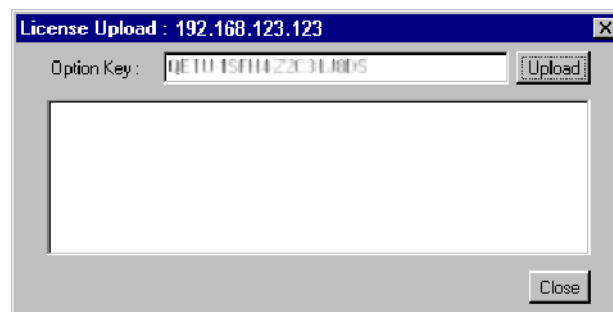

Figure 15: Entering the software license key
2. In the License Upload dialog box (see Figure 15), enter the new License Key supplied with this kit, and then click Upload.